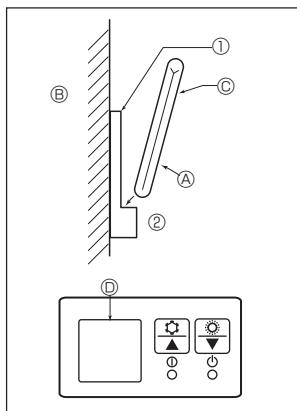

Fig. 6-7
2) Installationsmetod (Fig. 6-7)